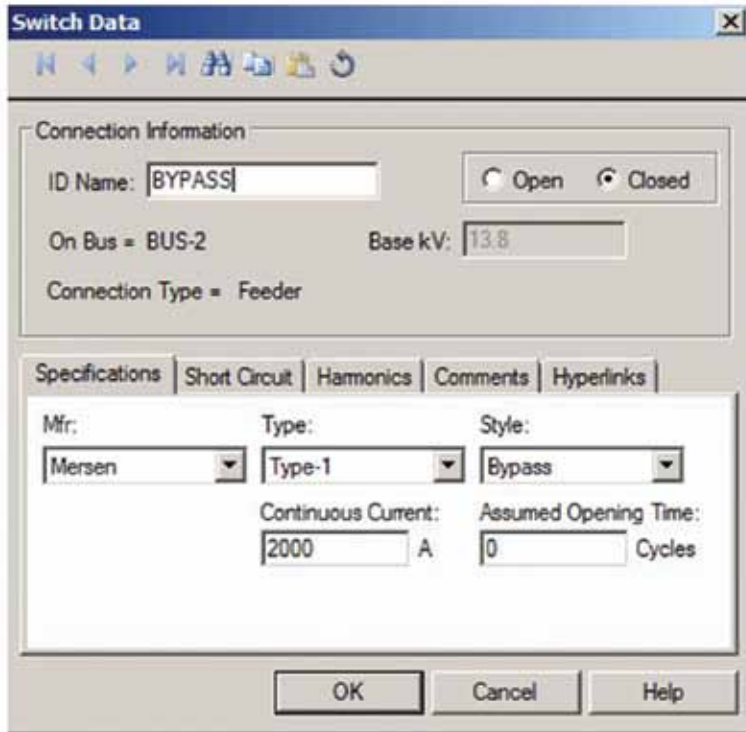

Figure 5. Selection of the bypass switch of the MVCF.
**Step 4.** The bypass switch is selected as a switch from the equipment tool box. Double click on the switch and make the proper selection as shown in Figure 5. Since the opening time of the bypass switch is built into the MVCF controlled fuse time current curves enter 0 cycles in the text box. Also check the 'Closed' check box.
**Step 5.** Select the conductors added in (4) and (5) for the MVCF model above. In this example, a 10' length (minimum allowed) of generic 4000A bus is recommended for the bypass switch leg. A 20' length of generic 1000A bus is recommended for the controlled fuse leg.